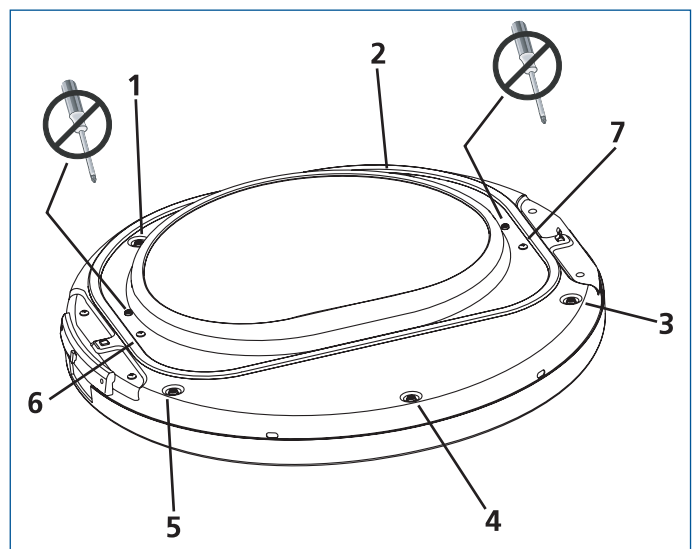

Figure 2-19.
5. Locate the 5 indented head screws (no. 1-5) in the small, circular recesses (at 11, 1, 4, 6, and 8 o'clock positions) of the inner door. Remove and save these 5 screws. (See Figure 2-19)
6. Locate the 2 pan head screws (no. 6-7) on the inner door nearest the metal strike and center of hinge (9 and 3 o'clock positions). Remove and save these 2 screws. (See Figure 2-19)